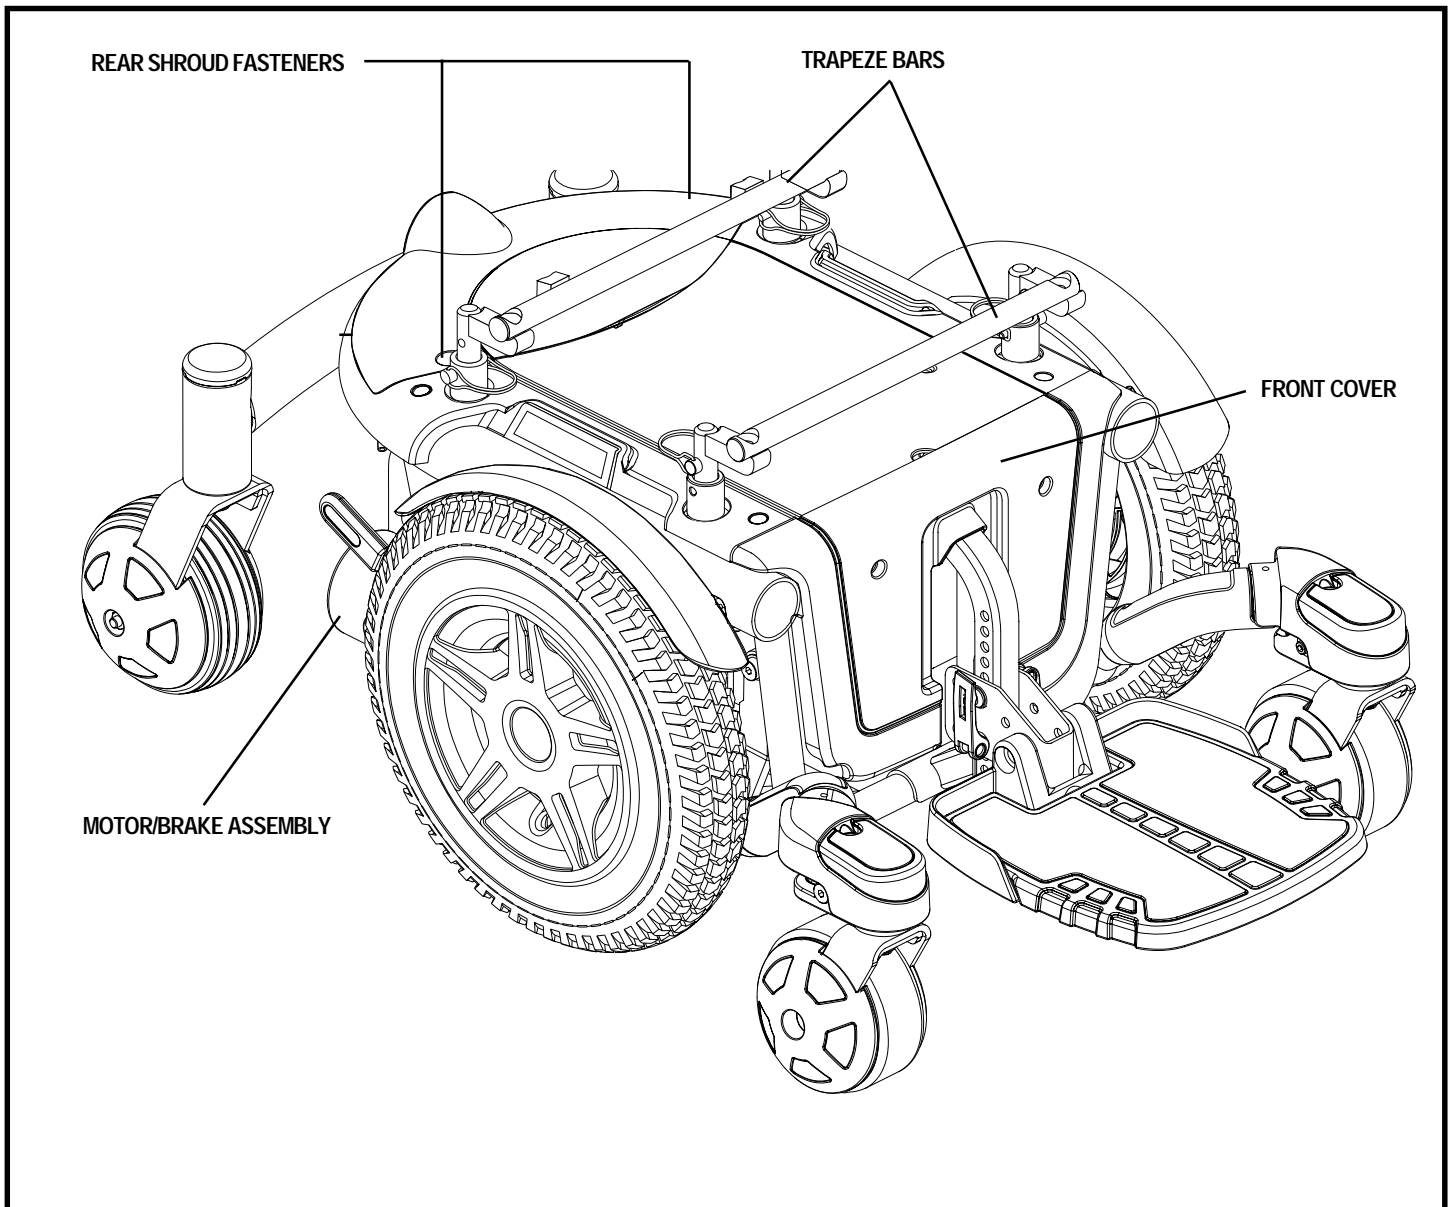

Figure 6. The Jazzy 600 Power Base
5. Turn the rear shroud fasteners one-quarter turn in any direction. See figure 6.
2. Turn the rear shroud fasteners one-quarter turn in any direction and remove the rear shroud cover. See figure 6.